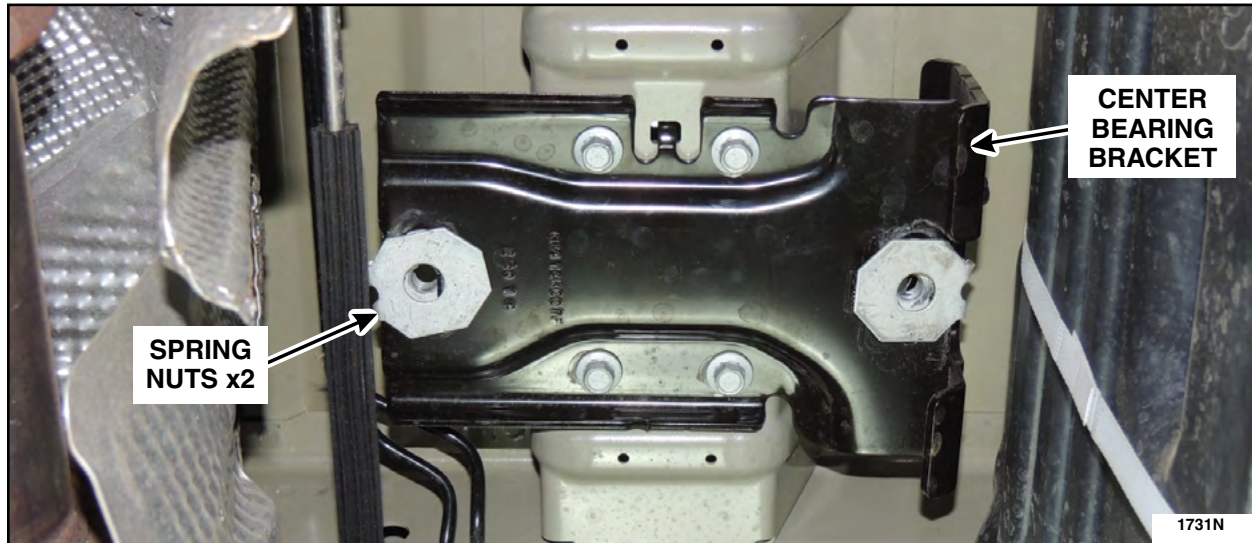

FIGURE 10
1. Remove and discard the four center bearing bracket retaining bolts and the center bearing bracket. See Figure 10.
3. Install the *new* center bearing bracket using four *new* retaining bolts. See Figure 10.